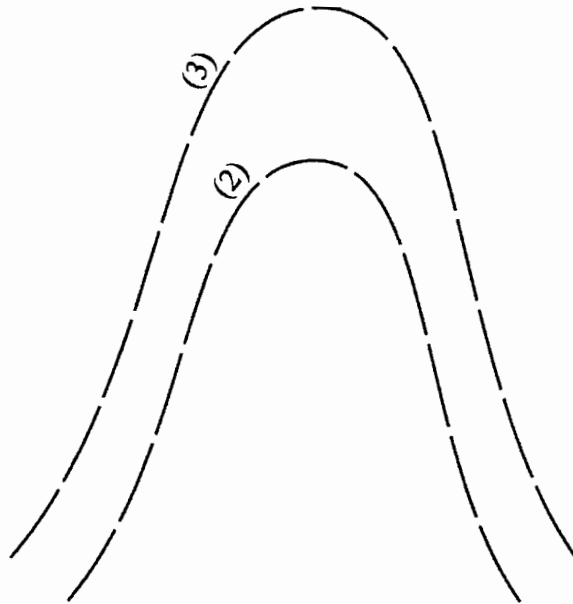

Figure 5-14a, Swale Signature Necessary for the Development of a Retention Pond and Dam
solution is shown below in Figures 5-14a through 5-14e. The requirements for this example are a pond with an average depth of 2-feet, an approximate surface area of 2,000-square feet and a dam face slope ratio not to exceed 5:1.
Step 1. Select area for the pond and dam. Look for a natural swale contour signature. See Figure 5-14a.